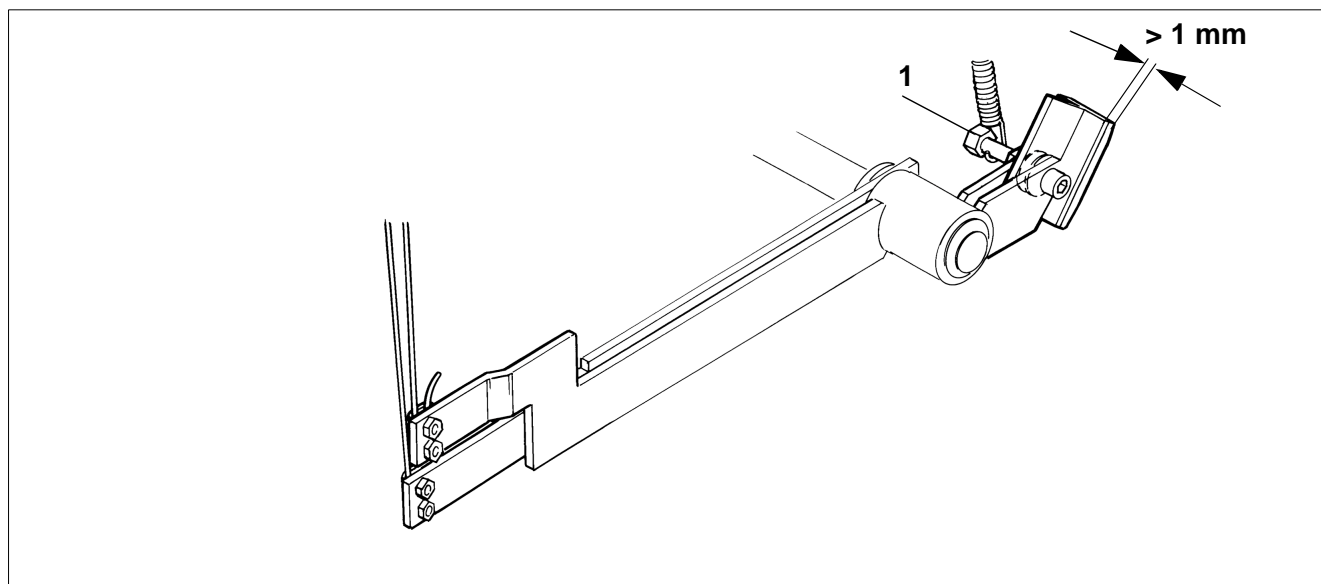

Fig. 24
- Check the brake linings. If the brake linings are thinner than 1 mm, they must be replaced (Fig. 24).
- Remove the old lining by loosening screw (1) (Fig. 24).